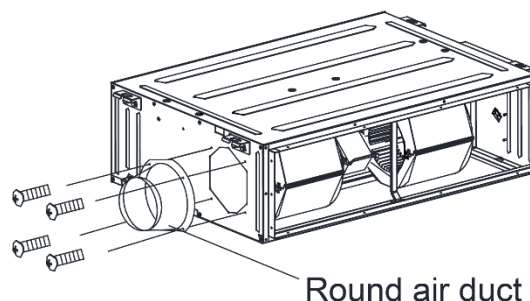

Fig 24
- (2) Install the round flange so that the fresh air duct can be connected as Fig 24.
- (3) Sealing and heat preservation should be done for both the air pipe and round flange pipe.
- (4) Fresh air should be treated via the air filter.